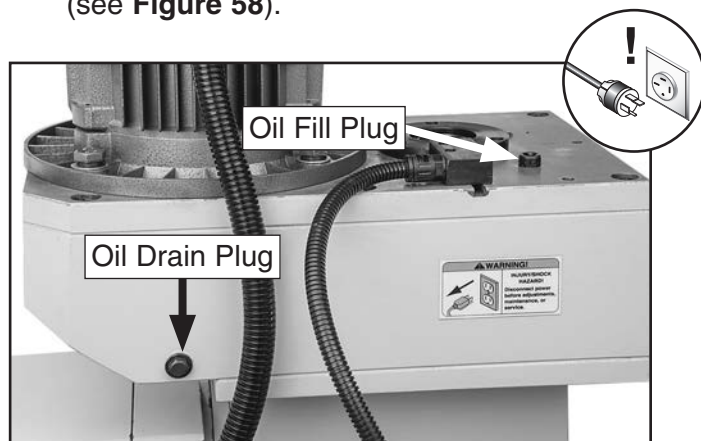

Figure 58. Headstock oil fill and drain locations.
1. Remove oil fill plug from top of headstock (see **Figure 58**).